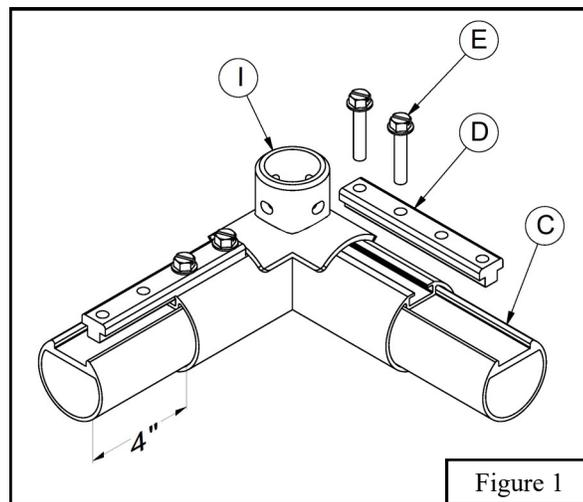

Figure 1
1. Slide *Inner Tubes* (C) into *Corners* (I) with approximately 4" extending from *Corner* (I). See Figure 1.
2. Lay *Connecting Bars* (D) into the channel of *Corner* (I) making sure two mounting holes are overlapping the *Corner* (I). Drill a 5/16" hole through the center of one of the mounting holes in *Connecting Bar* (D) and install a 3/8" X 2" *Self Threading Machine Screw* (E). Repeat process to install the second 3/8" X 2" *Self Threading Machine Screw* (E) in each *Connecting Bar* (D). Once all of the 3/8" X 2" *Self Threading Machine Screws* (E) are installed loosen each 3/8" X 2" *Self Threading Machine Screw* (E) one full turn to allow easy assembly with *Crossbar* (A) and *Uprights* (B). Repeat process for all corner assemblies. See Figure 1.